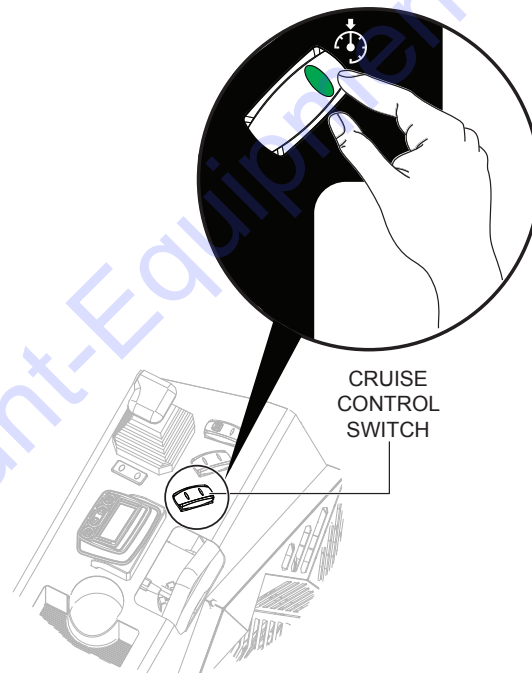

Figure 21. Cruise Control Switch
1. Press the cruise control switch (Figure 21) to engage the cruise control. The cruise control switch LED indicator lights when cruise control is engaged.